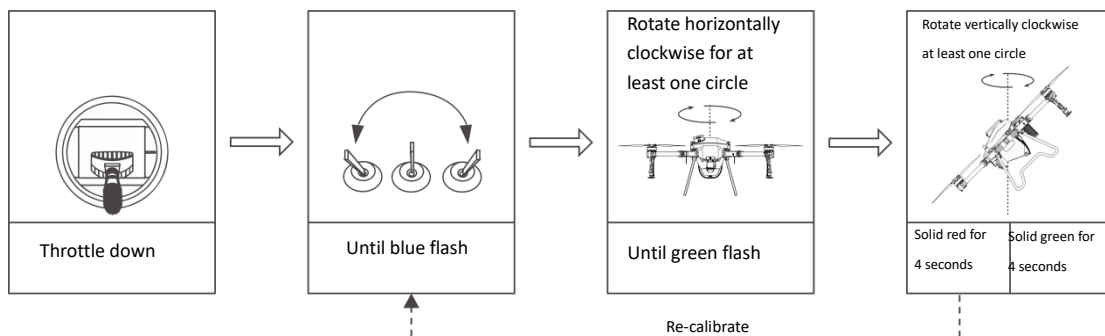

Figure 1-36 Compass Calibration
Step 2: Connect the battery output port to the body, and the battery is locked in when you hear a “click”. See Figure 1-36.